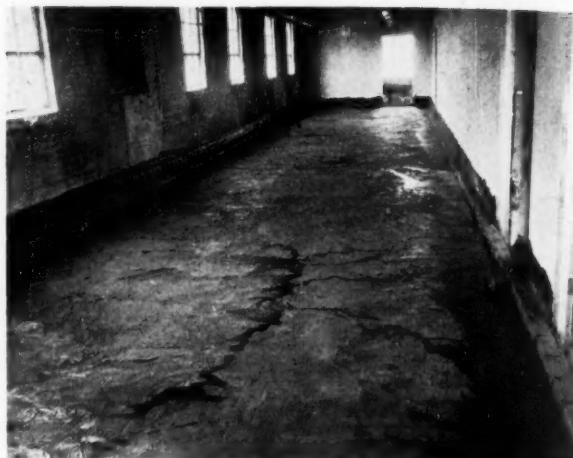

Figure 5. Completed brick floor, showing spread cement.
5. Bond the brick by pouring specially prepared cements into the joints. (See Figure 5.)